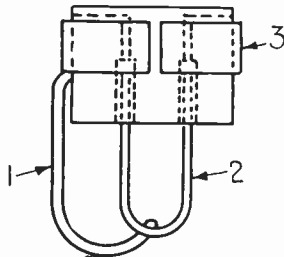

Fig. 8. How the loop can be supported at its center.
Finally, Fig. 8 (patent 342,902), a supporting arrangement (1) for the wire (2) can be used; before stripping, it is secured to the block by a collar (3). This keeps the wire rigid during the operation; when this is finished the supporting arrangement is carefully removed.